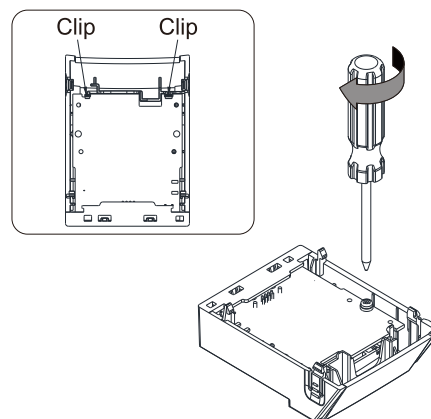

Figure 8-22
3. Make sure that two clips properly engage the option card on the backside, and then tighten the screws (suggested torque value: 4–6 kg-cm / (3.5–5.2 lb-in.) / (0.39–0.59 Nm), as shown in Figure 8-22.